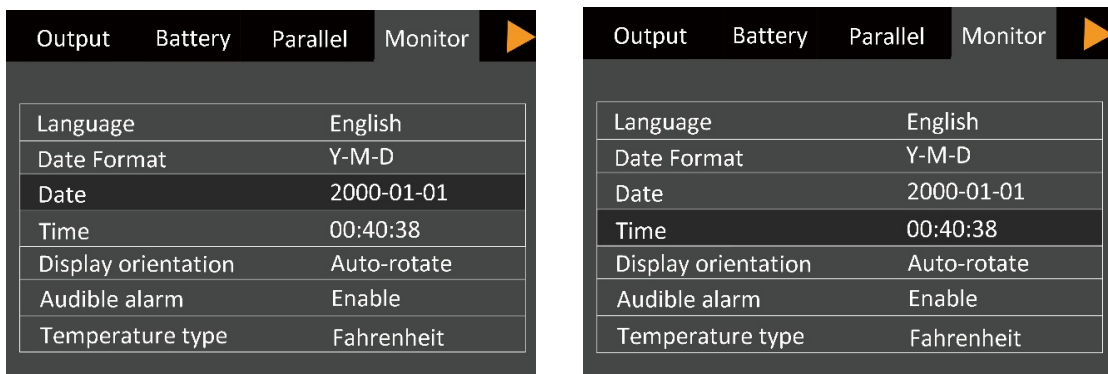

Figure 5-21 Changing date and time
4. Press the key, move the cursor and press the or key to change the date and time as required. See Figure 5-21.